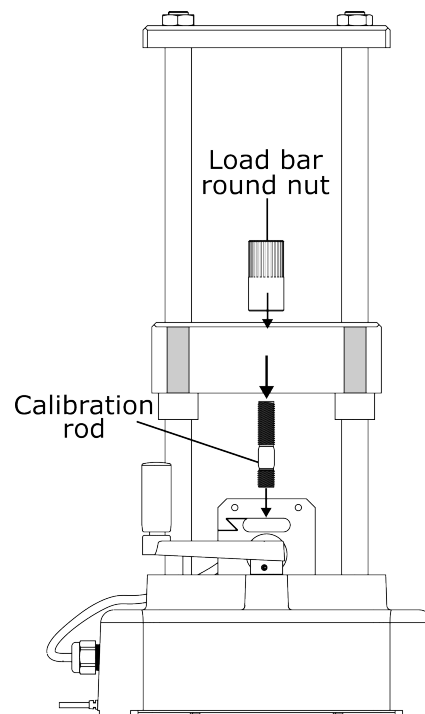

Figure 3. Mounting the calibration rod for tension experiments.
3. Screw the load bar round nut onto the top of the calibration rod. (See Figure 3.)